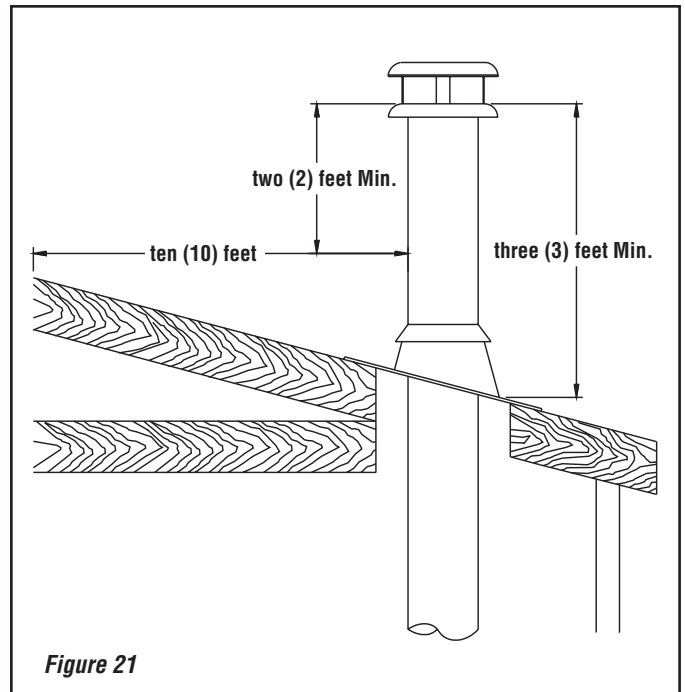

Figure 21
5. All chimney installations must include at least one support in order to be able to take any lateral load. The maximum chimney length that can be supported by the fireplace is nine (9) feet (2.75 m) for Secure Temp S2100+ / Nova Temp HT6000+ / Secure Temp GX and 26 feet (8m) for ACBI chimney. In altitude, add 18" (450 mm) to the chimney for every 2,000 feet (600 m) above sea level.
6. The chimney must extend at least three (3) feet (915 mm) above its point of contact with the roof and at least two (2) feet (610 mm) higher than any wall, roof or building within ten (10) feet (3 m) of it (**Figure 21**).
7. If the chimney extends higher than five (5) feet (1,500 mm) above its point of contact with the roof, it must be secured using a roof brace.